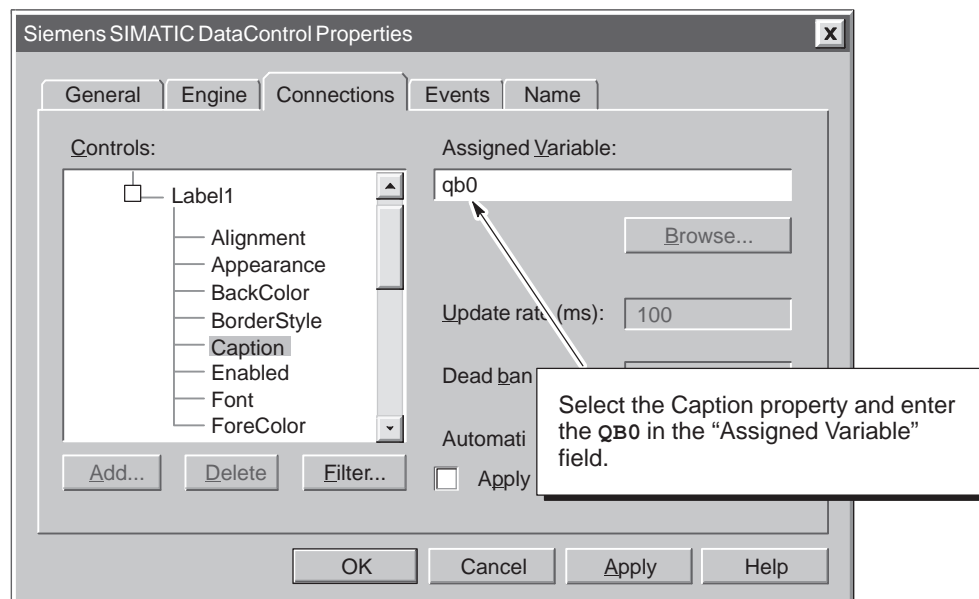

Figure 1-13 Assigning a Variable to the Caption Property of a VB Label Control
8. Select the Caption property and enter **QB0** in the “Assigned Variable” field. See Figure 1-13. Click on the “Apply” and “OK” buttons to enter the data and close the “Properties” dialog box.